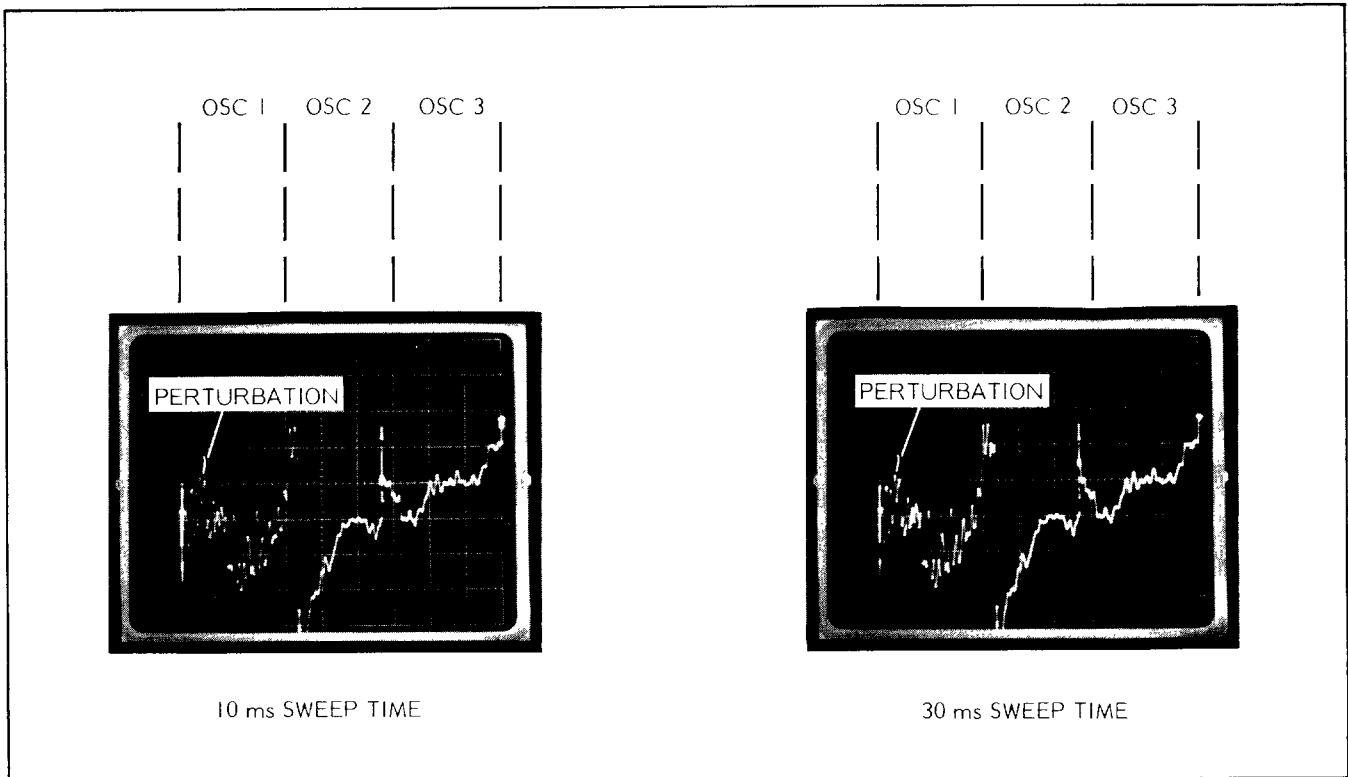

Figure 5-35. Waveforms Showing Frequency Shift with Sweep Time Change
1. select a perturbation to observe in the Osc 1 (2-8 GHz) band (Figure 5-35),